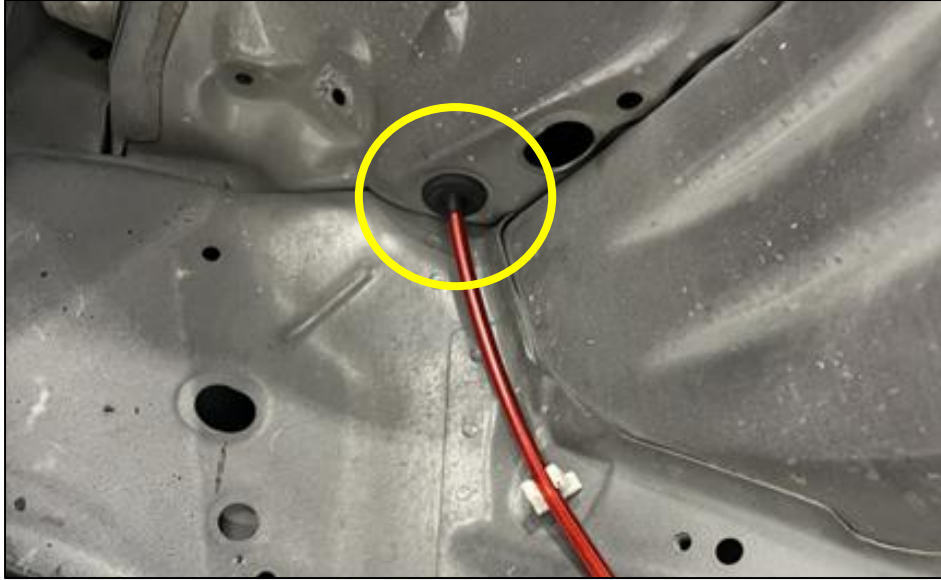

Figure 7
10. Locate the Z1 Single Piece Stainless Steel Upper Clutch Line. Push the Banjo Fitting End of the Line through the Rubber Grommet in the Wheel Well and up towards the Clutch Master Cylinder in the Engine Bay. *Figure 7.*